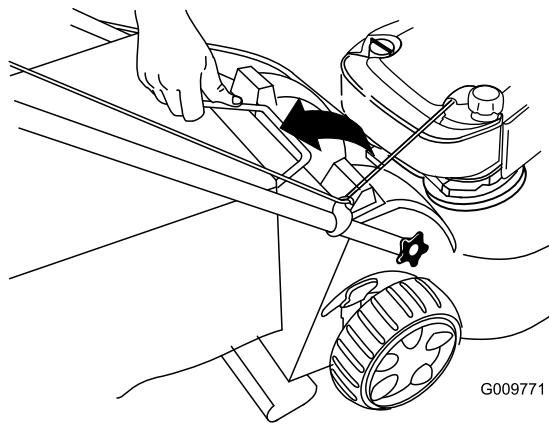

Figure 33
- Lift the grass-bag handle out from the grooves at the top of the machine and remove the bag from the machine (Figure 33).